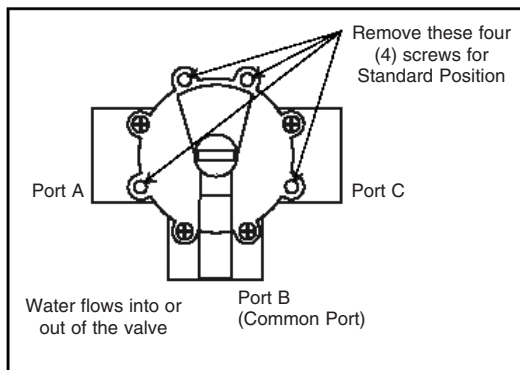
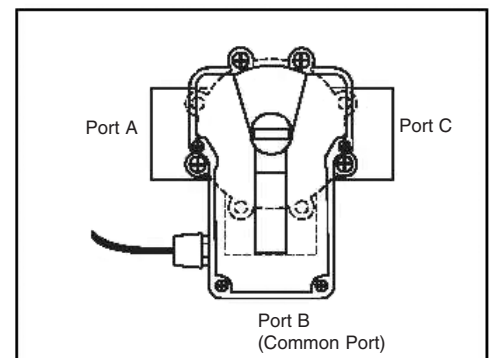
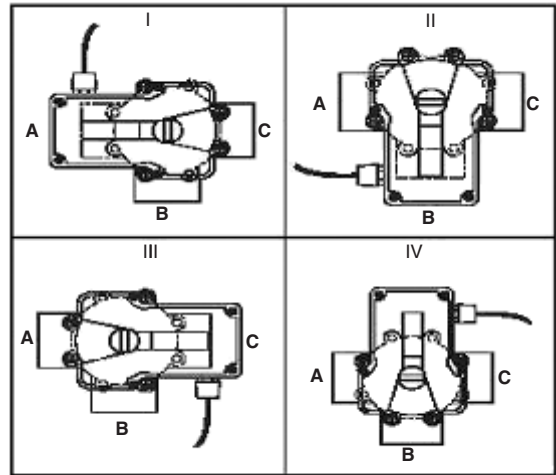

Figure 1. Standard Plumbing.
Figure 2. Standard Mounting.
Figure 3. Mounting Positions.
- Standard Plumbing** of a three-port valve is the port B (middle) being the incoming (common) port and A and C ports are the outlet ports (See figure 1).
- Standard Actuator Mounting** position is when the main body of the Actuator is over port B (See figure 2).
**NOTE: If the valve is plumbed as in Figure 1 and the Actuator is mounted as in Figure 2 below, the factory setting of Actuator cams need no adjustment.**
- The Actuator can be mounted on top of a valve in four different positions (See figure 3).
2. Depending on mounting position selected, (See figure 3), remove (4) Philip head screws from valve body. (See figure 1).
1. Find the mounting position of the Actuator in Figure 3, Page 2.